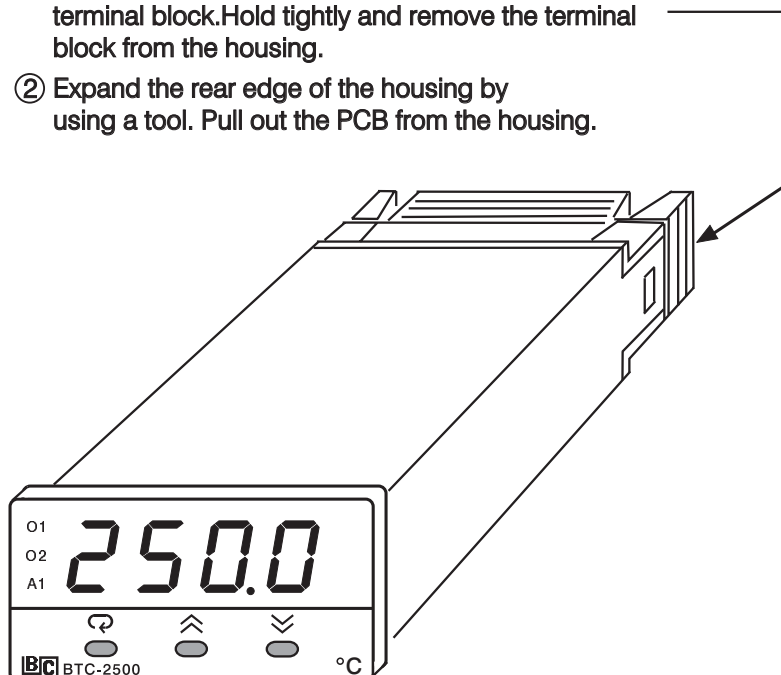

Figure 7.1
- (4) Dismantle the controller according to **Figure 7.1** .